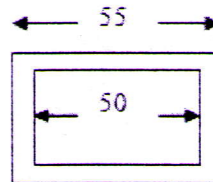

Fig.3
- 12 a) Discuss the Maxwell reciprocal theorem. (2)
- b) A shaft of square section as shown in Fig. 3 below is subjected to a twisting moment such that the maximum shear stress is limited to 250GN/mm^2 . Obtain the torque and angular twist, if shaft is 1.6m long (Take $G = 70000 \text{N/mm}^2$). (8)